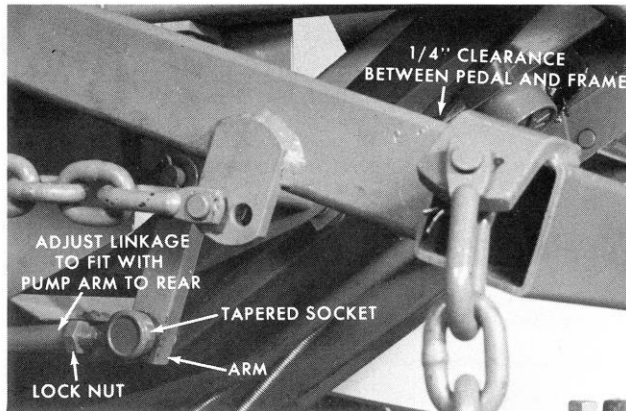

Figure 48
1. Disconnect the tapered socket from the arm on the pedal shown in Figure 48.
3. Hold the pedal assembly in the position shown in Figure 48, with 1/4" clearance between the bottom of the pedal and the frame.